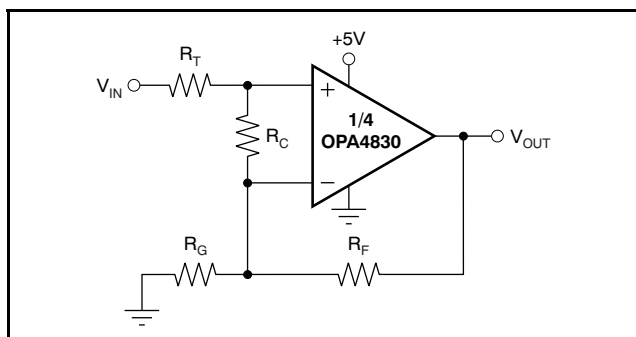

Figure 78. Compensated Noninverting Amplifier
Figure 78 shows a noninverting amplifier that reduces peaking at low gains. The resistor R_C compensates the OPA4830 to have higher noise gain (NG), which reduces the ac response peaking (typically 5dB at $G = +1V/V$ without R_C) without changing the dc gain. V_{IN} needs to be a low-impedance source, such as an op amp. The resistor values are low in order to reduce noise. Using both R_T and R_F helps minimize the impact of parasitic impedances.
Frequency response in a gain of $+2V/V$ may be modified to achieve exceptional flatness simply by increasing the noise gain to $3V/V$. One way to do this, without affecting the $+2V/V$ signal gain, is to add a $2.55\text{k}\Omega$ resistor across the two inputs (see Figure 78). A similar technique may be used to reduce peaking in unity-gain (voltage follower) applications. For example, by using a 750Ω feedback resistor along with a 750Ω resistor across the two op amp inputs, the voltage follower response is similar to the gain of $+2V/V$ response of Figure 73. Further reducing the value of the resistor across the op amp inputs further dampens the frequency response because of increased noise gain. The OPA4830 exhibits minimal bandwidth reduction going to single-supply ($+5\text{V}$) operation as compared with $\pm 5\text{V}$. This minimal reduction is because the internal bias control circuitry retains nearly constant quiescent current as the total supply voltage between the supply pins changes.
The criterion for setting this R_S resistor is a maximum bandwidth, flat frequency response at the load. For a gain of $+2$, the frequency response at the output pin is already slightly peaked without the capacitive load, requiring relatively high values of R_S to flatten the response at the load. Increasing the noise gain also reduces the peaking (see Figure 78).